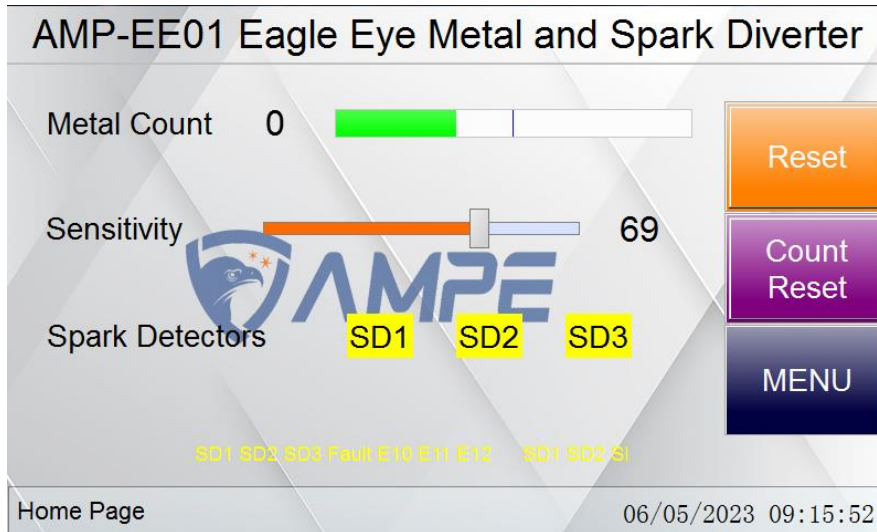

Figure 14c. display of spark sensor manual test fault
③ “SD Manual Test”: click “SD Test” key, test spark sensor function manually. When there is a fault in the spark sensor, the bottom of the page displays a fault such as "SD1 SD2 SD3 fault E10 E11 E12", it means fault code 10、11、12 : there is fault in SD1 SD2 SD3. As shown in Figure 14c.